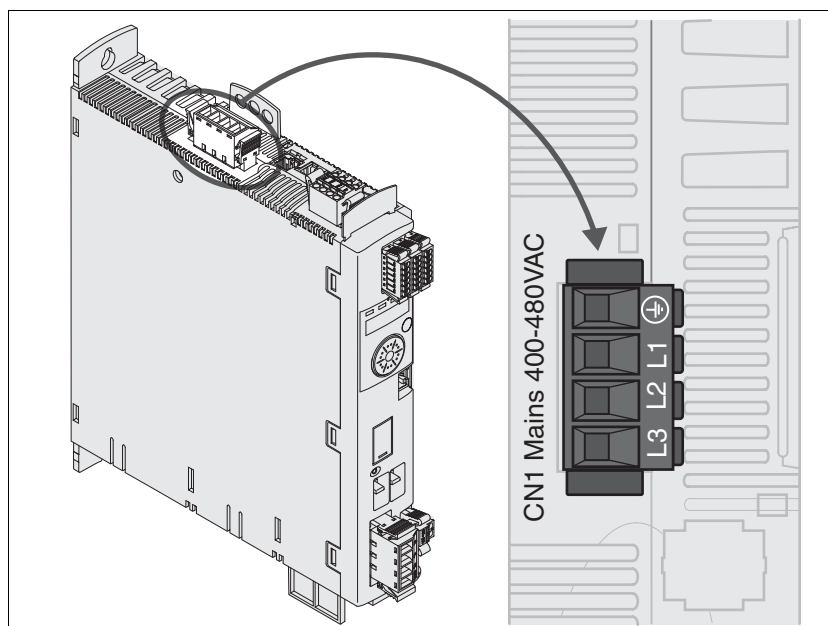

Figure 6.11 Wiring diagram power stage supply voltage for three-phase device
- Connect the mains cable (Figure 6.11). Note the tightening torque specified for the terminal screws.